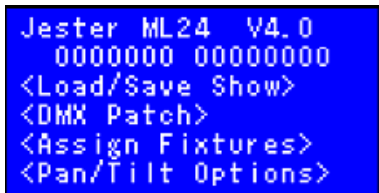

Fig. 1
2. Enter Setup by holding the MODE and SHIFT button together. Confirm the correct version of firmware is installed (Fig. 1)